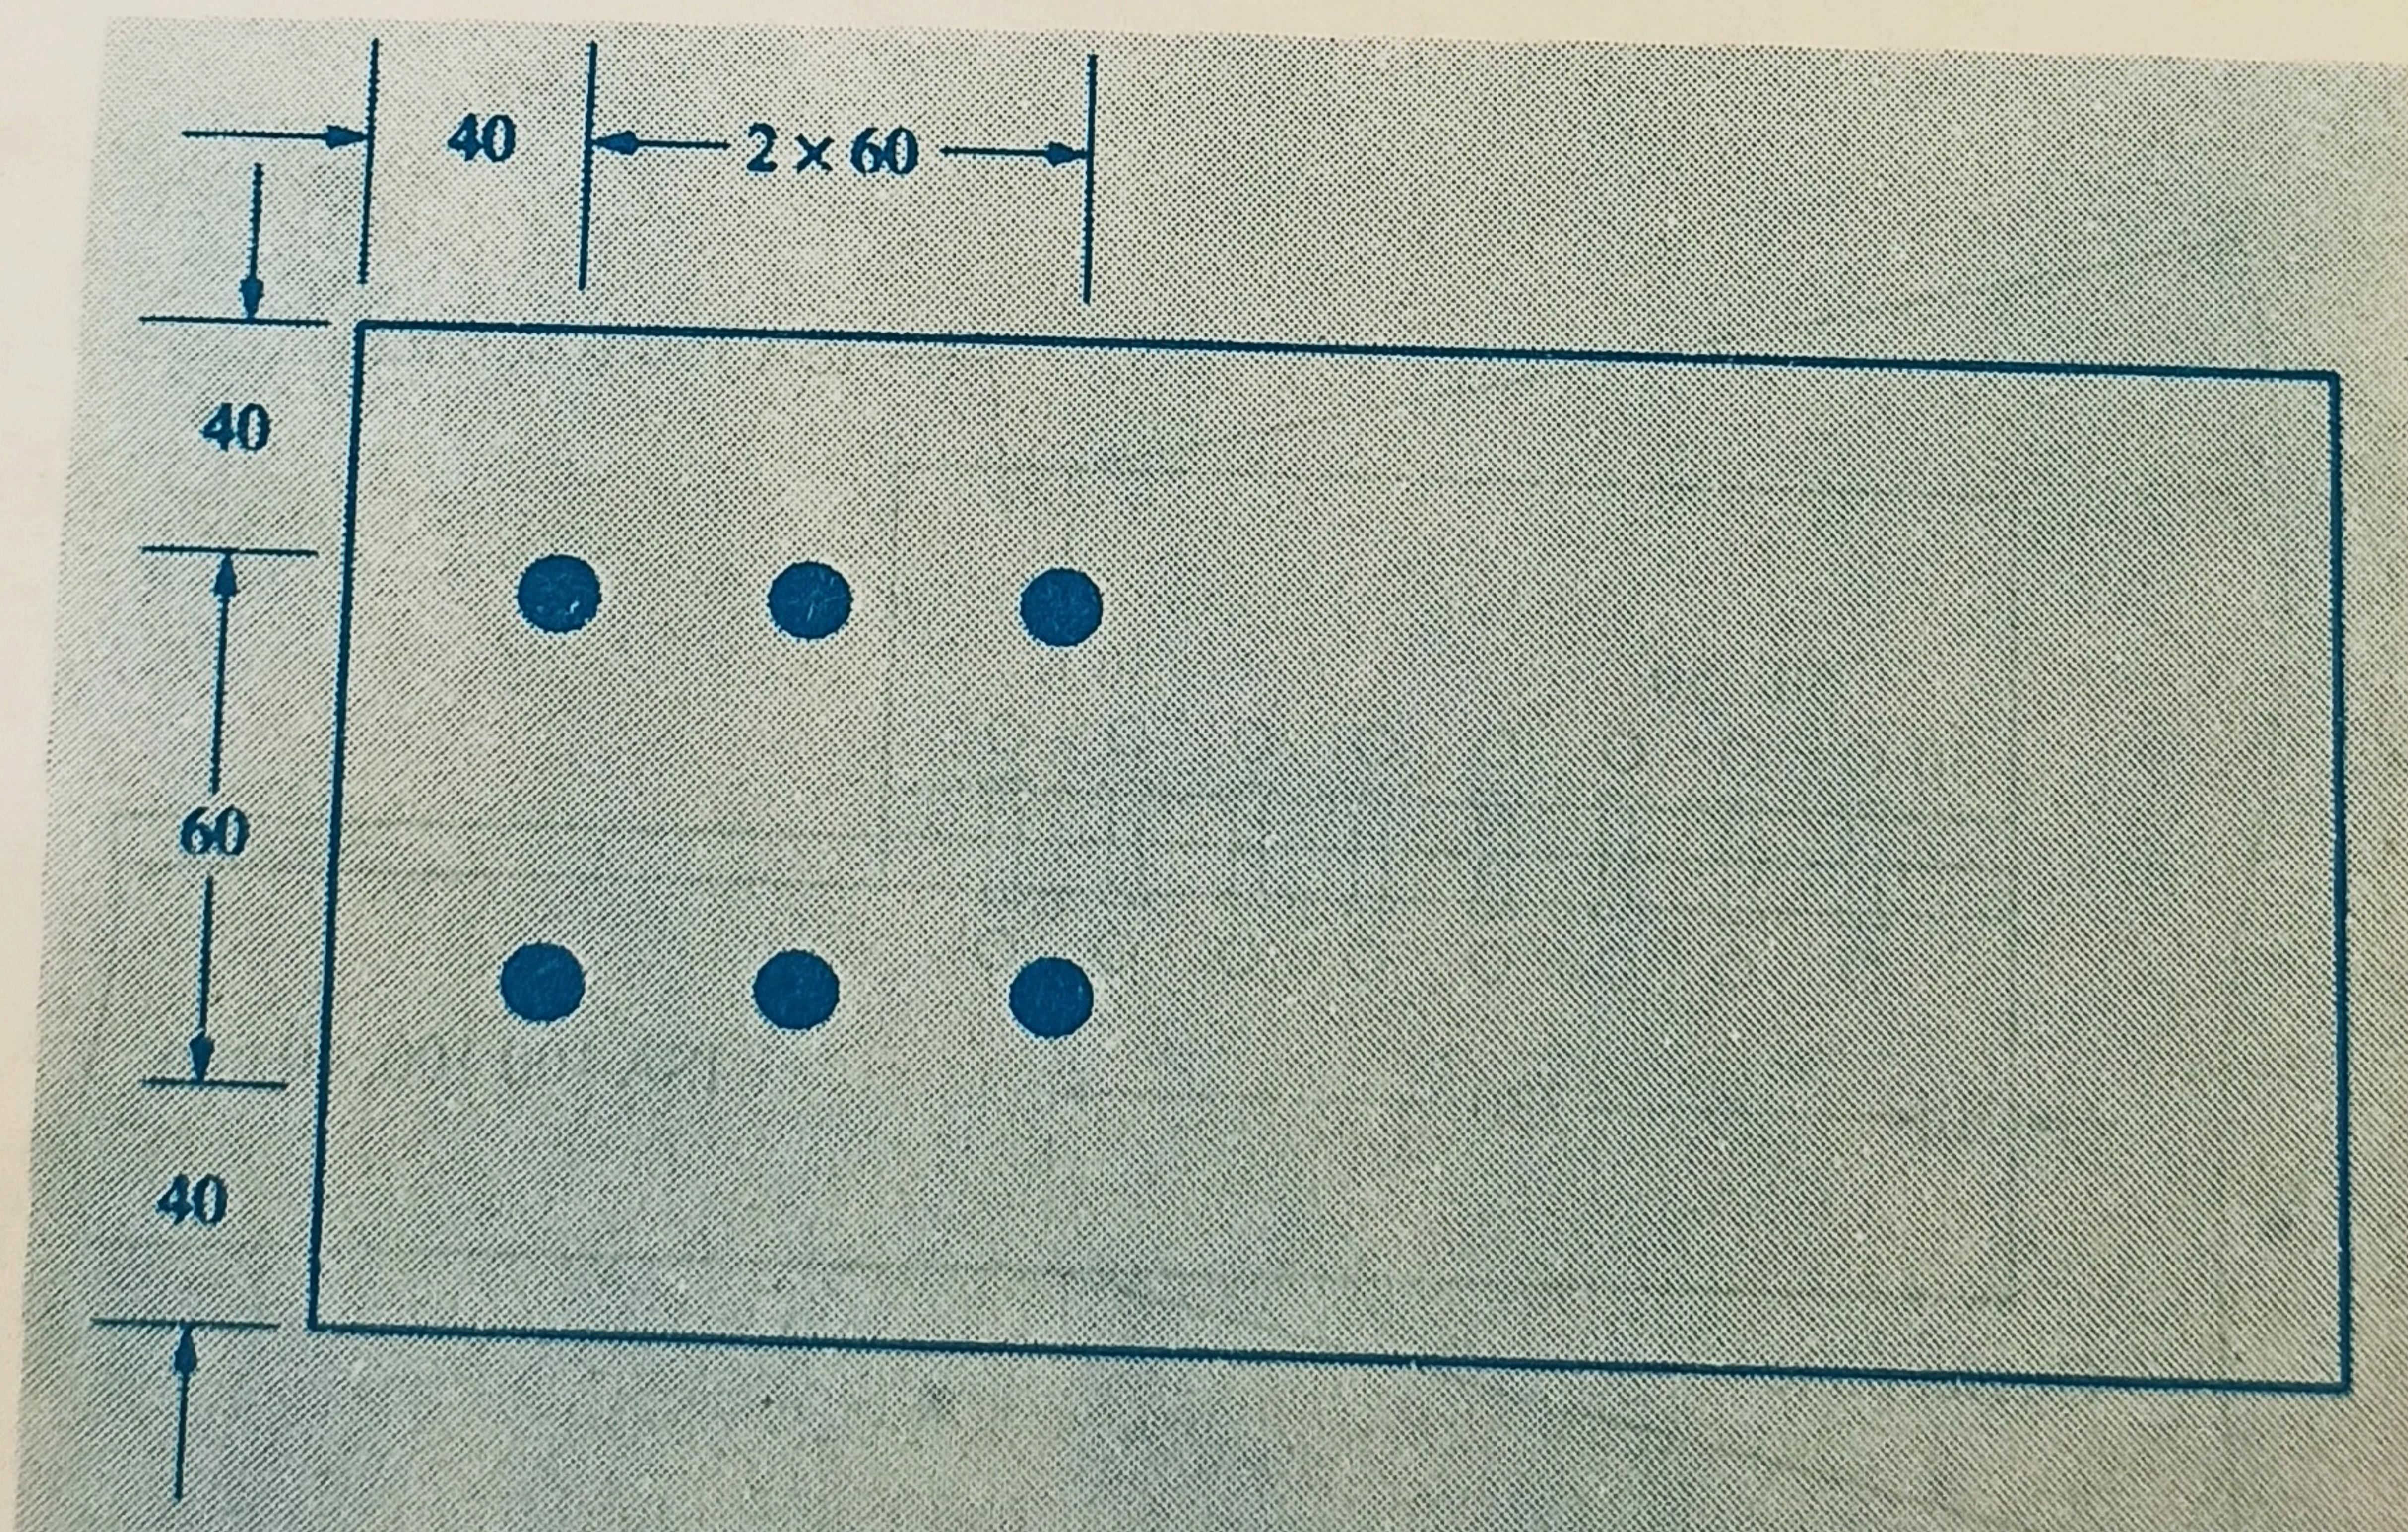

Figure 5.14
5. Determine the tensile strength of the plate $160 \text{ mm} \times 10 \text{ mm}$ with the holes for 24 mm bolts shown in Fig. 5.14.